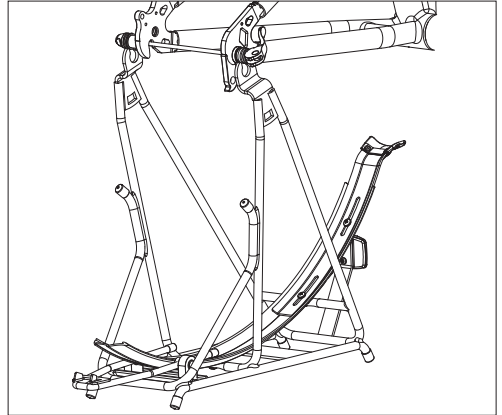

Fig. 40: Positioning RackStand (wheel not shown for clarity).
2. Place RackStand upside down (stand position) on the floor, with tail facing the front of the bike (Fig. 40).
3. Position the rear of the bike so it is resting on the tabs of the new quick release as shown. (Fig. 40).